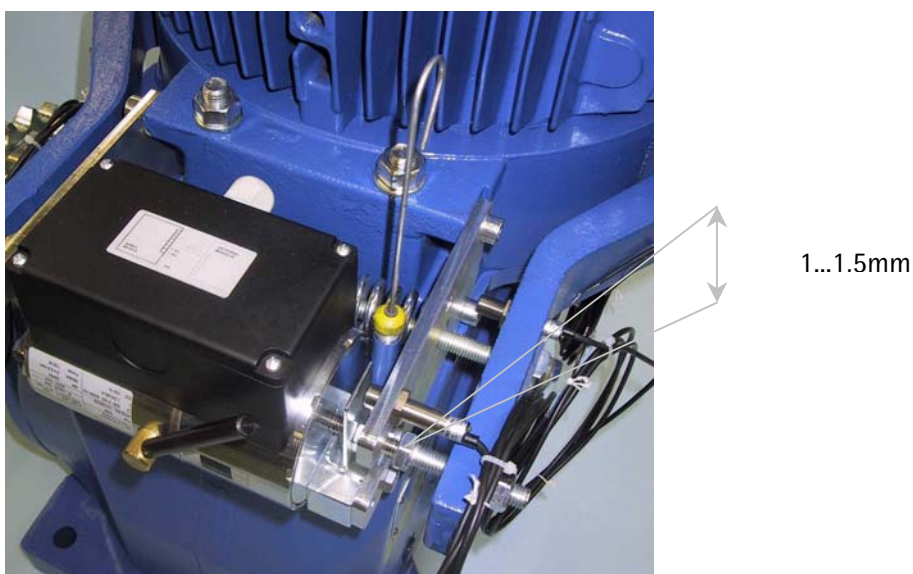

Fig. 9
(See Section 5.3.2 and Fig.9).
1. Press back the magnetic tappet and measure the clearance between the tappet and pressure screw (Fig. 9).